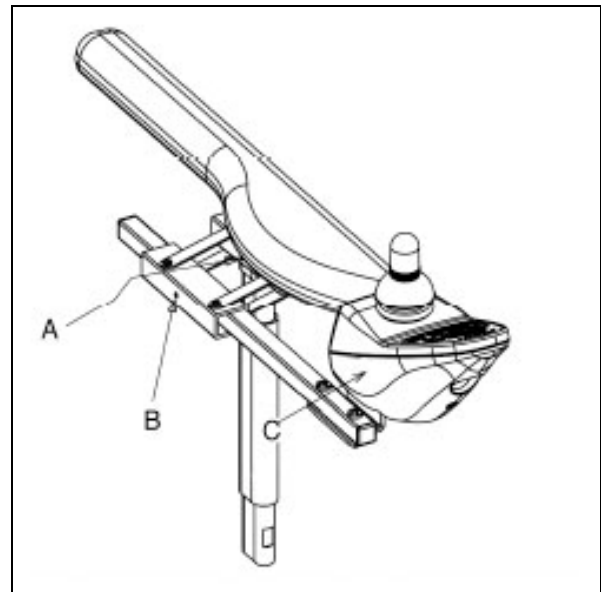

Figure 4.3
1. Loosen the bolt (A in fig. 4.3) a few turns with a 3 mm Allen key.
1. Loosen the bolt (B in fig. 4.3) a few turns with a 4mm Allen key.